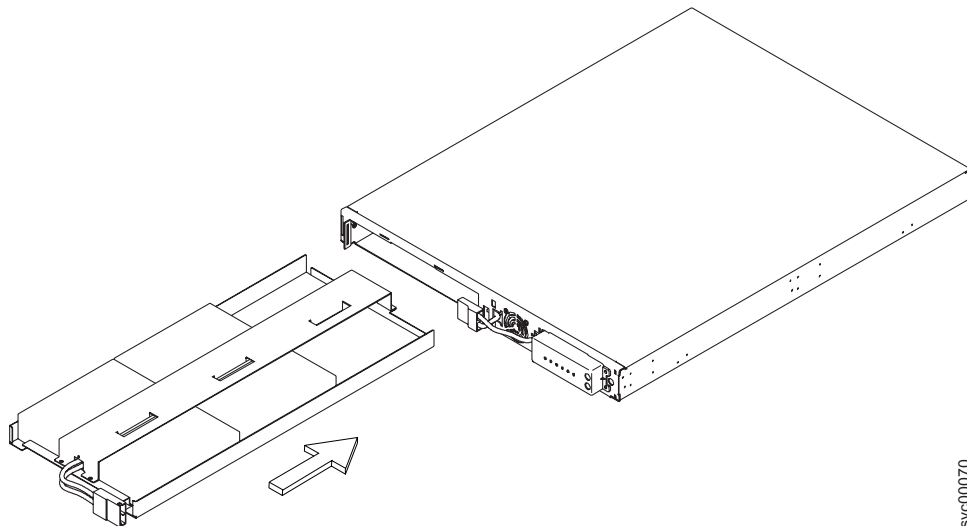

Figure 138. Replacing the 2145 UPS-1U battery
1. Slide the battery into the 2145 UPS-1U. See Figure 138.